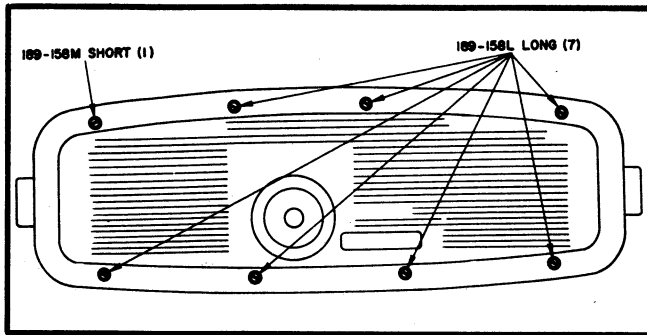

Figure 9. Bottom Plate Screw Arrangement
1. Remove short screw (Figure 9) from bottom plate, noting location.
2. Remove seven screws (Figure 9) from bottom plate.